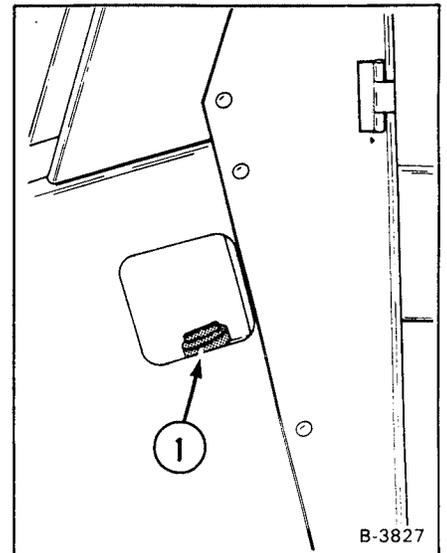

Fig. 1-10 Fuel Fill Location
(1) Remove the filler cap (Fig. 1-10, Item 1). The key switch must be in the "OFF" position and the engine must be cool.